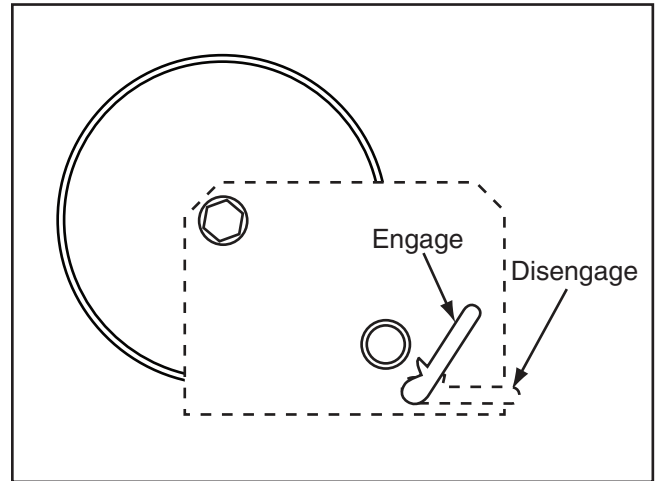

Figure 3. Ratchet control lever.
2. Move the ratchet control lever to one of the two positions shown below (**Figure 3**).